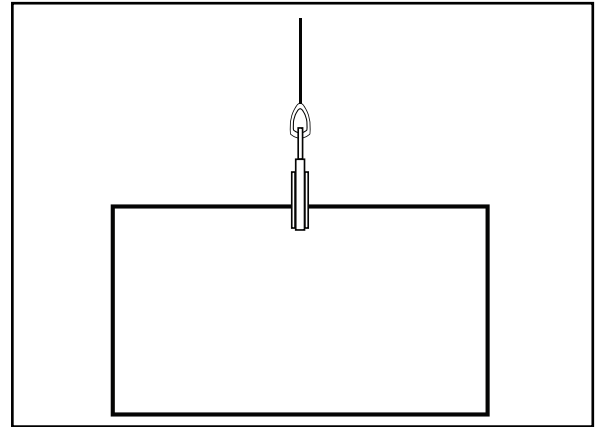

FIGURE 1
- The lifting of a single plate or structure in which the lifting force exerted by the rigging is directly above and in line with the lifting shackle as shown in Figure 1.